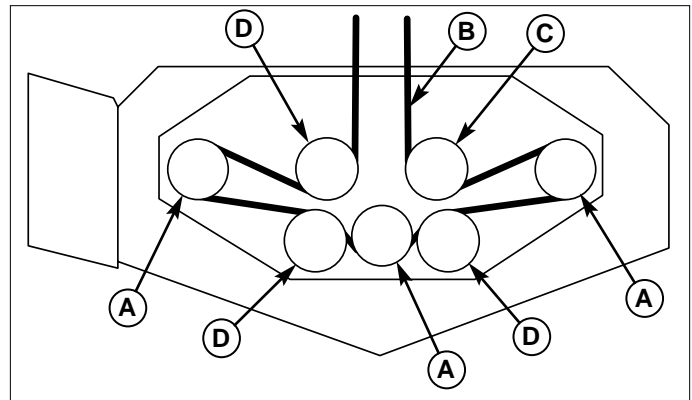

Figure 39. Mower PTO Belt Routing
5. Remove the old belt and replace with a new one. Make sure the V-side of the belt runs in the pulley grooves (Figure 39).